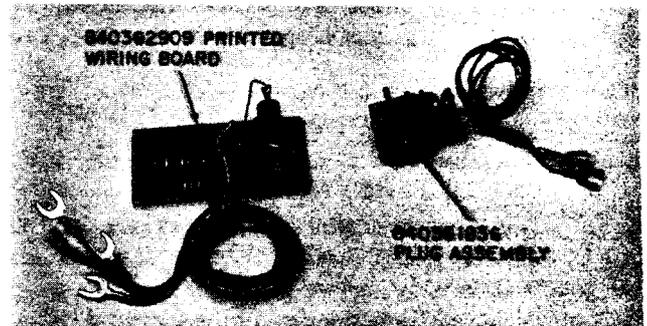

Fig. 19—D-180463 Kit of Parts—Station Busy Lamp Feature
2.29 To provide station busy lamp feature with telephone sets equipped for both handset and headset operation and 590- and 650-series keys install a 840362909 Printed Wiring Board Assembly, ordered separately, (Fig. 19). The printed wiring board assembly is provided with adhesive backing to permit mounting on any clean, flat surface.
**2.30** To provide station busy lamp feature with telephone sets equipped for both handset and headset operation and 635-type keys, a D-180463 Kit of Parts consisting of an 840362909 Printed Wiring Board Assembly and 840361836 plug assembly, ordered separately, must be installed (Fig. 19).